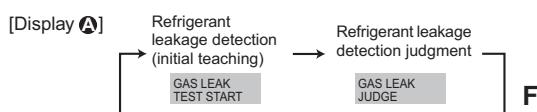

Fig. 8-2
- Press **CLOCK** button and select the [GAS LEAK TEST START] (Fig. 8-2)